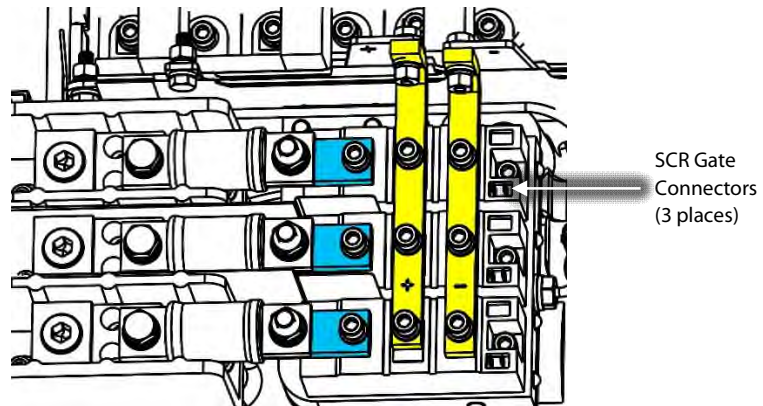
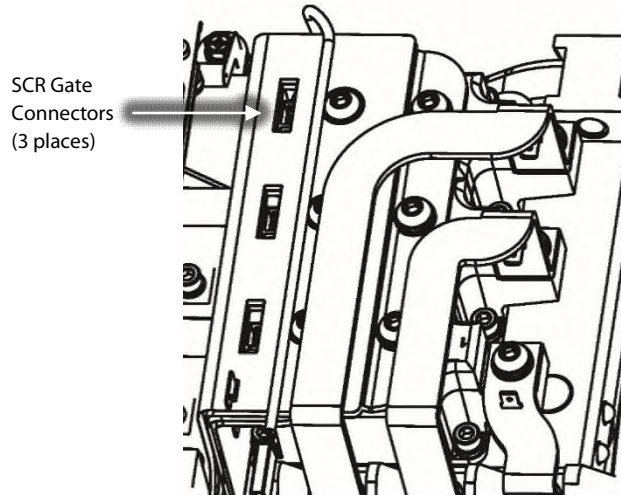

Figure 6 – Soft Start SCR Gate Cable Removal at SCR (TTS300/TGS230)
Figure 7 – Soft Start SCR Gate Cable Removal at SCR (All other TTS/TGS/TTH/TGH Models)
- a. Remove the six (6) connectors from the Soft Start SCR Cable that plug into the SCR's. This may require the use of needle-nose pliers. Refer to Figure 6 – *Soft Start SCR Gate Cable Removal at SCR (TTS300/TGS230)* and Figure 7 – *Soft Start SCR Gate Cable Removal at SCR (All other TTS/TGS/TTH/TGH Models)* for the appropriate compressor model.